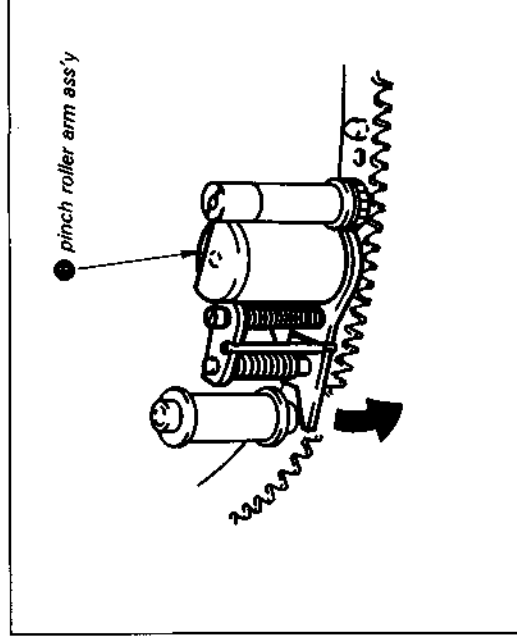

Fig. 7-16.
- 4) Rotate pinch roller arm assembly ● in the direction of arrow. (See Fig. 7-16.)